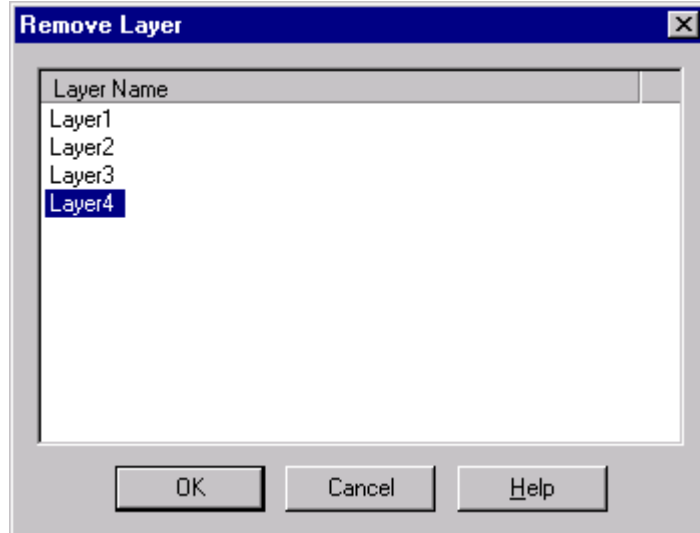

Figure 7-3: Remove Layer Dialog Box
1. On the Format menu, select Layer > Remove Layer. The Remove Layer dialog box appears (Figure 7-3).